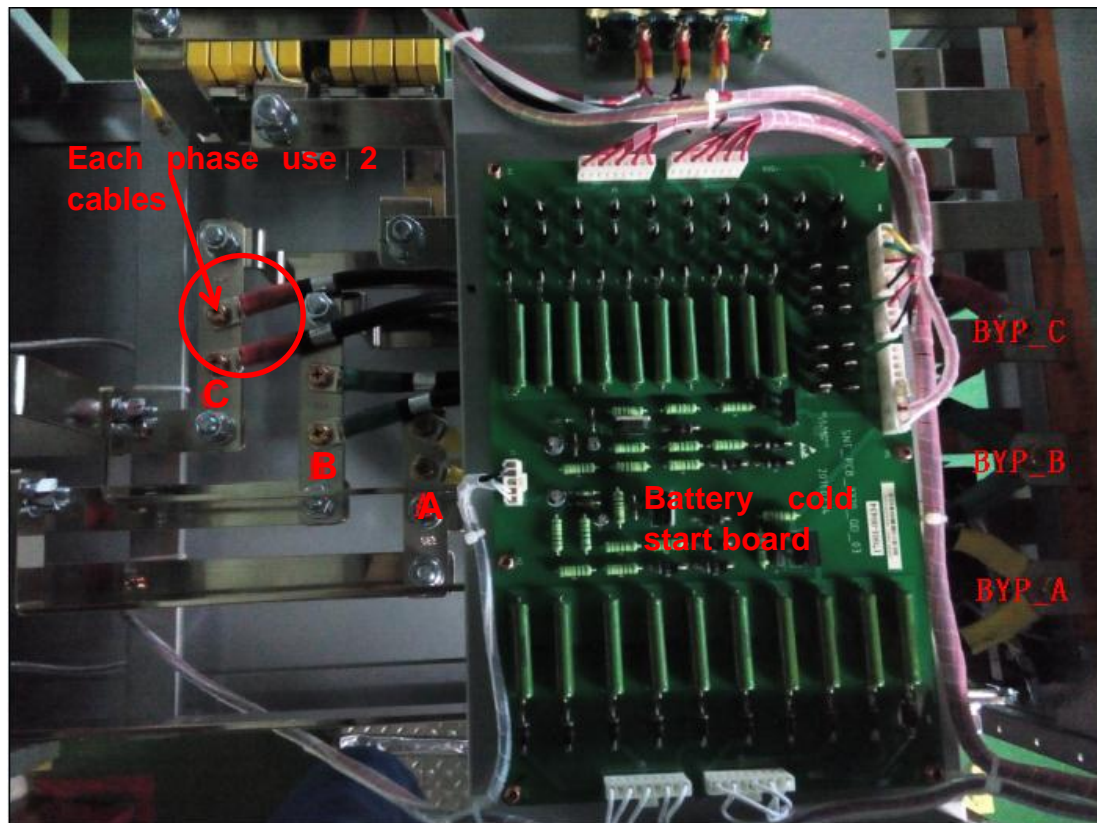

Figure 3 New power cable installations
- Install 2 power cables for each bypass input phase, as is shown in figure 3, please ensure the right phase.